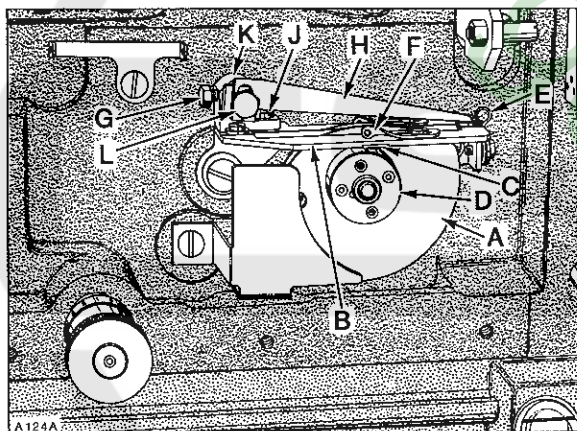
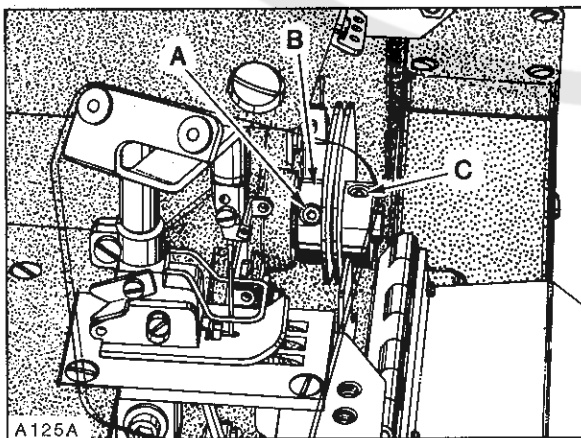

Fig. 21
Fig. 22
Looper thread take-up (A, Fig. 21) must be centered, front to back in cast-off plate (B). It should also be positioned so as the needle bar is descending, the looper thread is "cast-off" the highest lobe of looper thread take-up when the point of the needle is even with the bottom of looper blade.
If adjustment is required, lift cast-off plate up. Loosen screw (A, Fig. 22) in positioning collar (B) and two screws (C) in looper thread take-up. Advance or retard take-up as required. Tighten two screws (C) securely in take-up making sure it is centered in cast-off plate. Positioning collar (B), which has a slot in its face, must be aligned with two screws which secure the discs of take-up together while THRUSTING positioning collar forward against take-up. Remove the play between screw heads in take-up and slot in positioning collar by applying pressure on the collar CLOCKWISE while tightening screw (A) securely. Cast-off plate (B, Fig. 21) should be positioned with .004 inch (0.1mm) clearance between cutting edge of looper thread anti-wrap-up knife (C) and hub (D) of looper thread take-up, which can be adjusted by repositioning latch (E). Set adjustable eyelets (F) in the center of their mounting screws. More or less, looper thread can be supplied in the stitch by moving adjustable eyelets to the right or left respectively.